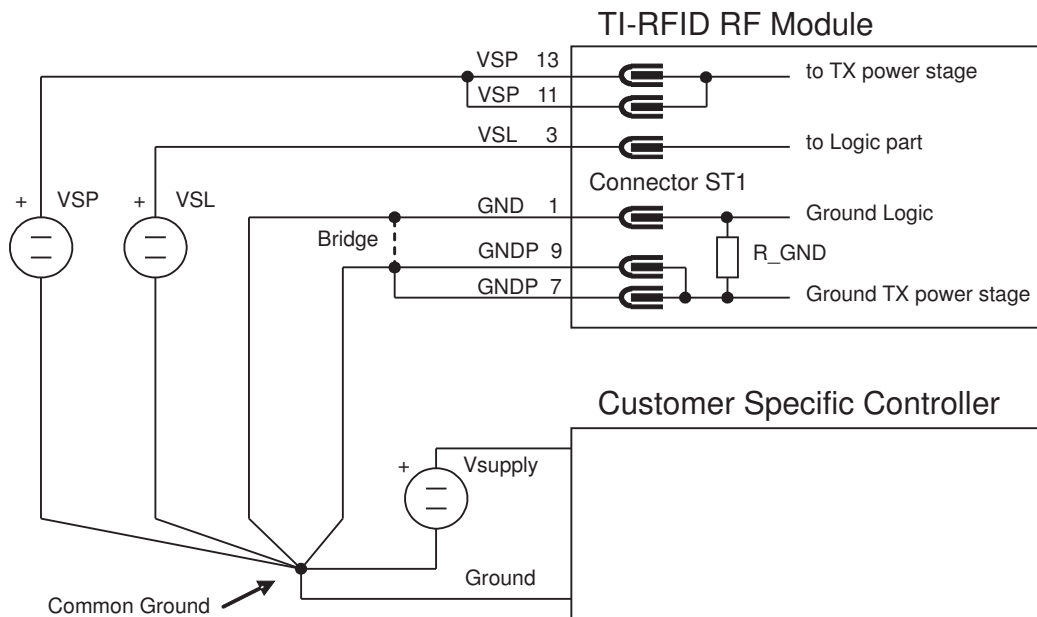

Figure 3-1. External Ground Connection (GND to GNDP)
1. A high resistivity of the GNDP pins could cause a voltage drop across these pins, due to high transmitter power stage current (this does not apply to the supply pins of the logic section). If the grounds were connected to each other internally, this would also lift the internal logic ground and cause logic level compatibility problems with the Control Module (see Figure 3-1).
2. In order to provide greater flexibility when using long supply lines. Long VSP supply lines between the RFM and the Control Module cause a voltage drop across this supply line (again due to high transmitter power stage supply current). This voltage drop would also lift the logic ground and cause logic level compatibility problems with the Control Module. This can be avoided by connecting the grounds externally in any of three different ways (see also Figure 3-1) as described below:
- For cable lengths of up to 0.5 m between RFM and Control Module, the RFM ground pins GND and GNDP must be connected at the Control Module, as shown in Figure 3-1. The grounds for the VSP, VSL and the Control Module supply are connected together at a common ground. Alternatively, if the voltage drop across the VSP supply line is less than 0.5 V (likely in this case), the ground pins GND and GNDP may be connected together at the RFM. If the system has a TI-RFid Control Module, the RFM ground pins GND and GNDP are already connected together correctly on the Control Module. When using a customer-specific controller, care must be taken to connect the RFM ground pins GND and GNDP to an appropriate ground on the controller.
- Cable lengths longer than 2 m are not recommended. If the application demands cabling longer than 2 m, the logic signal connections between the RFM and the Control Module should be done via a differential interface (for example RS422). Due to different ground potentials at different locations it may also be necessary to provide galvanic separation of the interface signals by, for example, opto-couplers. In this case, to avoid problems with difference voltages between GND and GNDP, these pins must always be connected directly at the RFM. As shown in Figure 3-1, a shorting bridge is necessary for this purpose, situated as close as possible to the RFM.